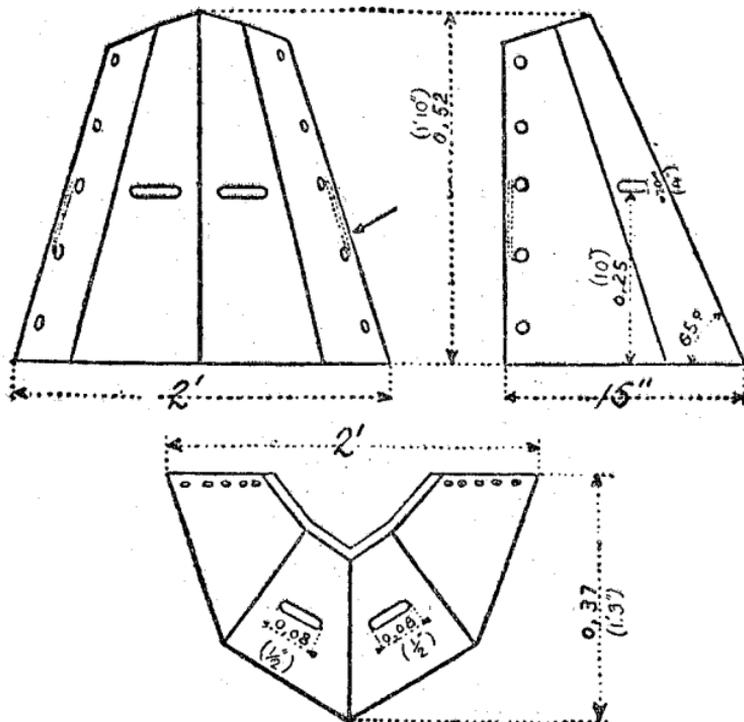

FIG 153.—Girod type of lookout's cover.
7. **Cired type of lookouts cover** (fig. 153).—Two models weighing 10 and 32 kilograms (35+ and 70+ pounds); plates of 8 mm. and 12 mm. thickness (0.312 and 0.47 inch).